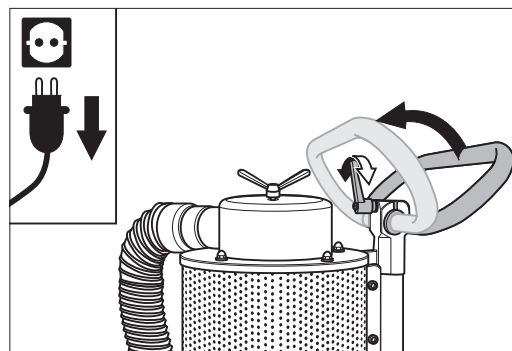

Fig. 2 To tilt the machine, release the clamping lever of the handle first and press the handle forward.
- 2 After unpacking the machine, release the securing grip of the handle, press handle forward and pull, securing grip back into its prior position (Fig. 2).